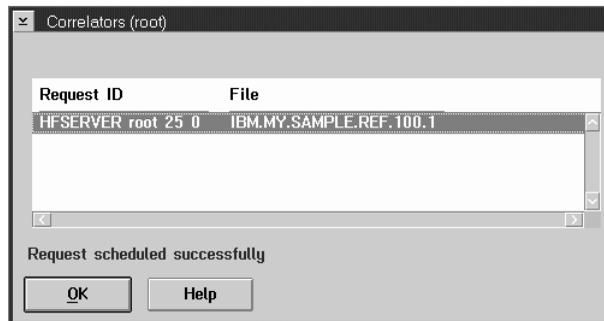

Figure 74. Correlators window
- 11 Click on the **Install** push button. The Correlators window is displayed, as shown in Figure 74.